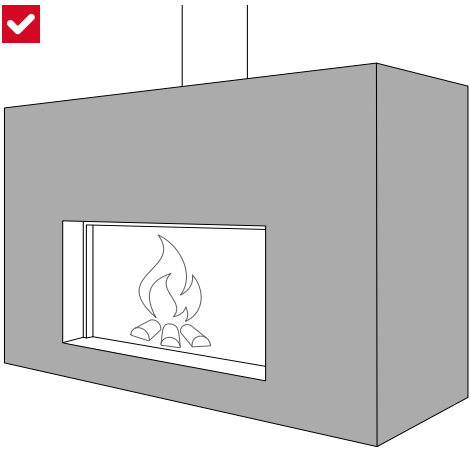
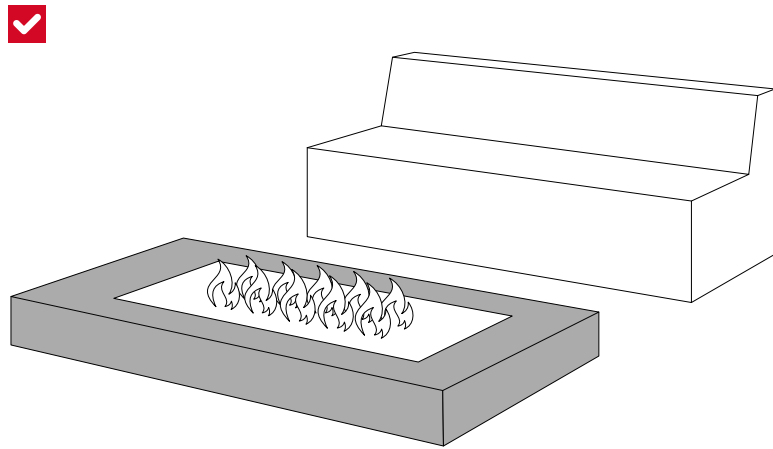

fig. 1
fig. 2
Mirage® slabs are highly suitable for **integration with induction hobs**, providing an excellent solution from both a technical and aesthetic standpoint. In fact, the material is fire-proof and has a linear thermal expansion coefficient of $\alpha = 6 \times 10^{-6} \text{ } ^\circ\text{C}^{-1}$ according to the EN 10545-8 standard, while also featuring thermal shock resistance according to the EN 10545-9 standard. For a correct installation, the minimum distance to be maintained between the countertop and the induction hob is 2 mm (fig. 1), followed by sealing with a suitable thermal silicone (fig. 2). **Always refer to the manufacturer's induction hob manual.**
- Direct contact: Avoid direct contact between the Mirage® slab and the grill (or barbecue) by providing an appropriate clearance space proportional to the dimensions of the appliance and the high temperatures that can be generated and subsequently spread (fig. 1);
- Joint sealing: Fill the planned joint (whether thick or thin) between the slab and the grill (or barbecue) with insulation material or thermal silicone (fig. 2);
Mirage® slabs are perfectly suitable for the **front, side, top,** and general perimeter cladding of the refractory material used in fireplace construction. (fig. 1 - fig. 2);